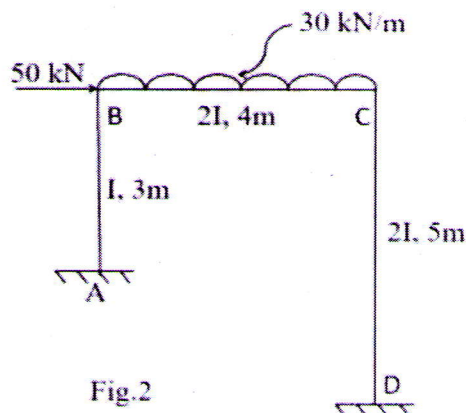

Fig.2
- 3 Analyse the portal frame given in Fig.2 using Slope deflection method and draw BMD. (15)